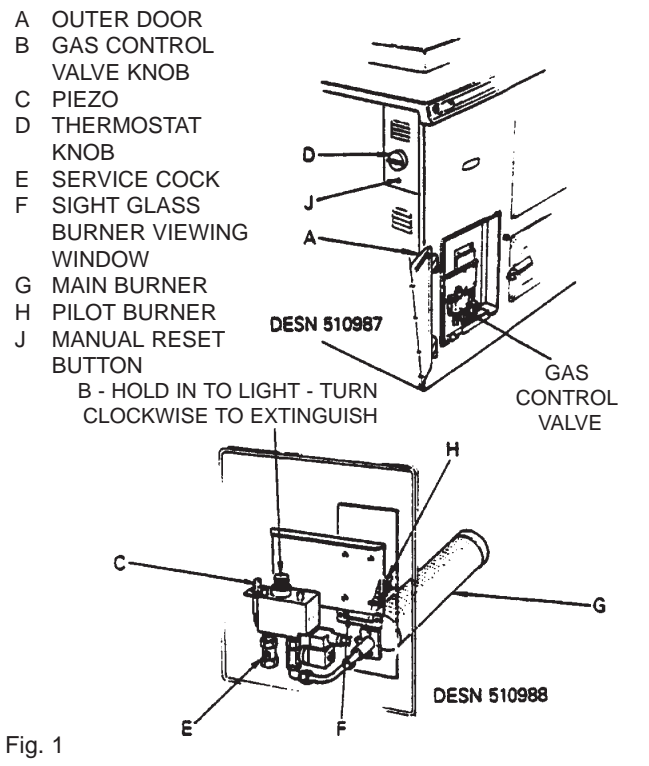

Fig. 1
This appliance is fitted with combustion discharge safety device (CDSD) which will switch off the appliance in adverse flue conditions, therefore before turning the main burners ensure that the manual reset button is depressed. Fig. 1.
LIGHTING THE BURNER - SEE FIG. 1
2. Ensure that the thermostat knob **D** is at the O position (Fig. 1).
This is visible through the sight glass **F**. (A few seconds must be allowed for the gas to reach the pilot burner). (See Fig. 1).
To increase the temperature of the hotplate and ovens turn the thermostat knob **D** (See Fig. 1) to the required setting.
NOTE: Hotplate cooking is quicker when the gas burner is on high fire. So increase the setting on the thermostat knob **D** (see Fig. 1) to increase the temperature of the hotplate. (This hotplate gains in heat quicker than the oven).
This oven is thermostatically controlled by the thermostat knob **D** (see Fig. 1). When the oven reaches the desired temperature this is maintained by the thermostat.
Some examples of items that are suitable for lower oven temperatures are given below for these times the thermostat knob D (see Fig. 1) is above setting 6:-
The programmer can be set to give the desired cooking temperature when you want it, without having to wait for the warming up period. For example, if you wish to cook breakfast at 7:30 am, the programmer can be set to give the required heat up time prior to this. Thus, if it takes 60 minutes to come to the temperature you require, the programmer will be set to operate at 6:30 am and the thermostat knob **D** (see Fig. 1) set to the position you require the night before. The programmer switches on at 6:30 am and the cooker will commence to warm up. The 'Time Off' will need to be set to allow sufficient time for your cooking period.